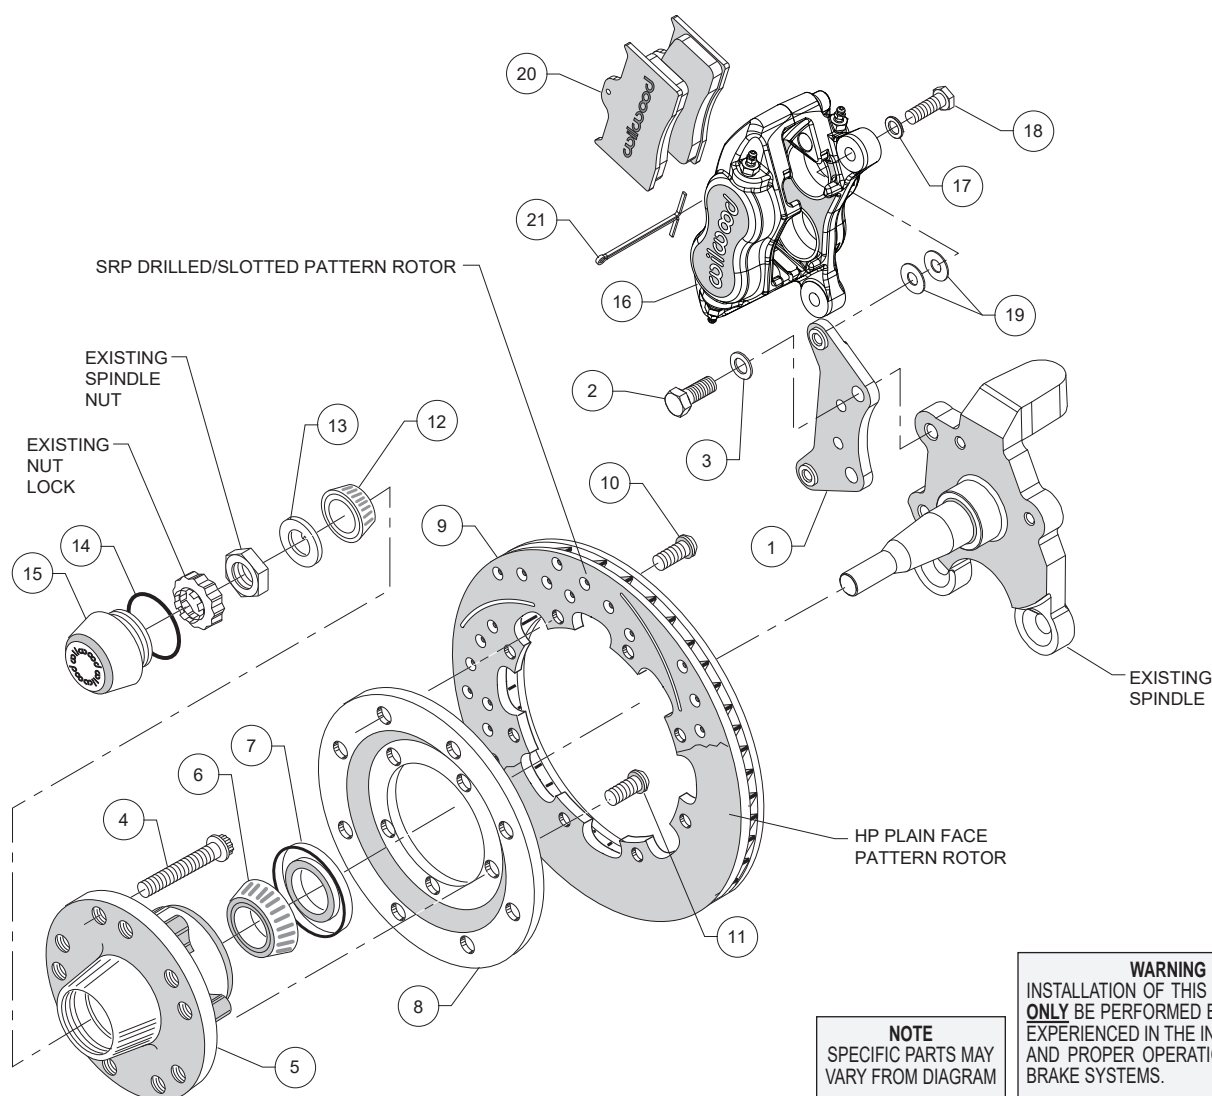
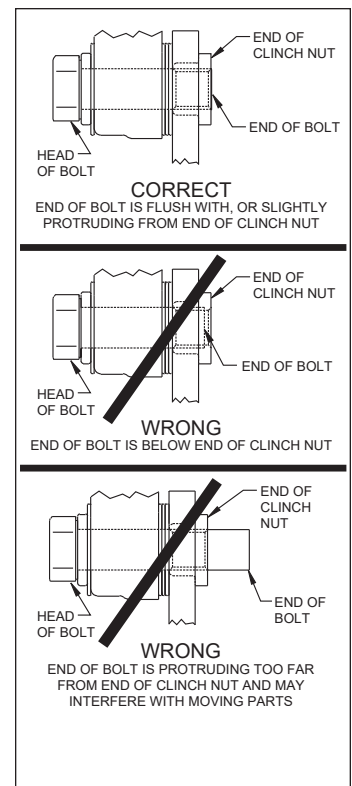

Figure 1. Typical Installation Configuration
Figure 3. Clinch Nut Engagement Diagram
Assembly Instructions (numbers in parenthesis refer to the parts list on the preceding page, and Figure 1): **CAUTION:** All mounting bolts must fully engage insert nuts. Be sure to check that all bolts are either flush or protruding through flanged side of clinch nut after shimming, Figure 3.
- Align caliper mounting bracket (1) with the corresponding holes, to the face of the spindle and attach using bolts (2) and washers (3), as shown in Figure 1 and Photo 1. Temporarily tighten the mounting bolts. Ensure that the flanged heads of the clinch nuts in the bracket are facing outboard, Photo 1. **NOTE:** The bracket must fit squarely against the mounting points on the spindle. Inspect for interference from casting irregularities, machining ridges, burrs, etc. Remove bolts one at a time, apply red Loctite® 271 to threads, and torque to 77 ft-lb.
- Orient the rotor (9) and the rotor adapter (8) as shown in Figure 1 and Photo 4. Attach the rotor to the adapter using bolts (10). Using an alternating sequence, apply red *Loctite*® 271 to the threads, and torque to 25 ft-lb.
- Mount the adapter/rotor assembly (8/9) to the hub (5) using bolts (11), as shown in Figure 1 and Photo 5. Using an alternating sequence, apply red *Loctite*® 271 to the threads, and torque to 45 ft-lb.
- Pack the small outer bearing cone (12) with high temperature disc brake bearing grease and install into hub (5). Slide the hub/rotor assembly onto the spindle. Secure using spindle washer (13) and OEM spindle nut, Photo 6. Adjust bearings per OEM specifications. Install saved OEM nut lock (if any) and a new cotter pin (not included).
- Screw dust cap (15) into hub (5), Photo 7. Friction created by the o-ring (14) on the dust cap keeps it from unscrewing. **NOTE:** The O.D. of the existing OEM spindle washer may be larger than the I.D. of the dust cap not allowing it to seat against the hub face. Therefore, use the spindle washer (13) supplied with the kit instead of the OEM washer.
- NOTE:** Please reference the caution statement at the beginning of the assembly instructions. Mount the caliper (16) onto the caliper mounting bracket (1) using bolts (18) and washers (17), as shown in Figure 1. Initially place two .035" thick shims (19) on each bolt between the caliper and the bracket, Photo 8. Temporarily tighten the mounting bolts and view the rotor (9) through the top opening of the caliper. The rotor should be centered in the caliper, Photo 9. If not, adjust by adding or subtracting shims between the bracket and the caliper. Always use the same amount of shims on each of the two mounting bolts. **NOTE:** The end of each bolt must be flush with or slightly protruding from the head of the clinch nut, as shown in Figure 3. If necessary place spare shims between washer (17) and caliper mounting ear to achieve the proper clinch nut engagement. Once the caliper alignment and clinch nut engagement are correct, remove the bolts one at a time, apply red *Loctite*® 271 to bolt threads, and torque to 40 ft-lb.